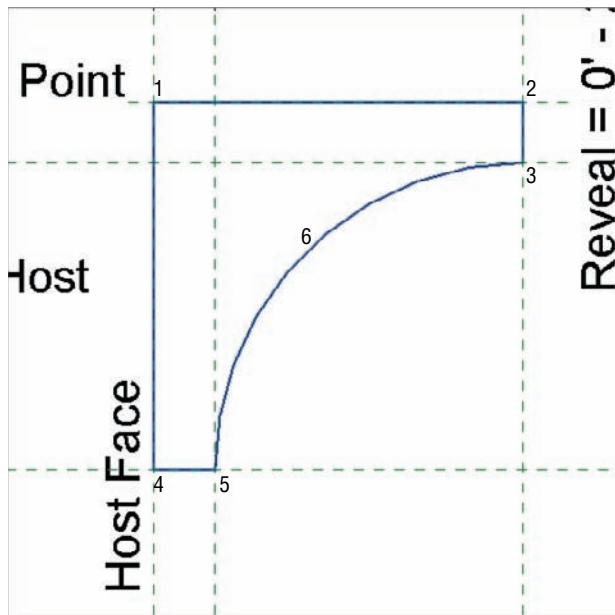

FIGURE 17.11 Drawing the boundary of the profile
2. Draw a line from the intersection labeled 1 in Figure 17.11 to the intersection labeled 2.
7. On the Draw panel, click the Start-End-Radius Arc button, and draw an arc from point 5 to point 3. When the two points are snapped in place, move your cursor to the left until the radius snaps into place (point 6). Your family should look like Figure 17.11.